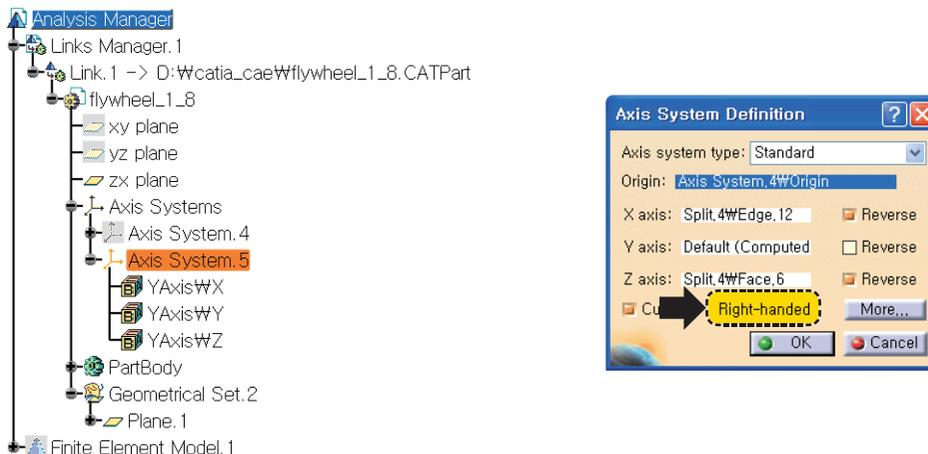

Fig 8-15 Modifying the Z axis
4. Make sure that the coordinate system is **Right-handed** as in Fig 8-15 and press **OK**.